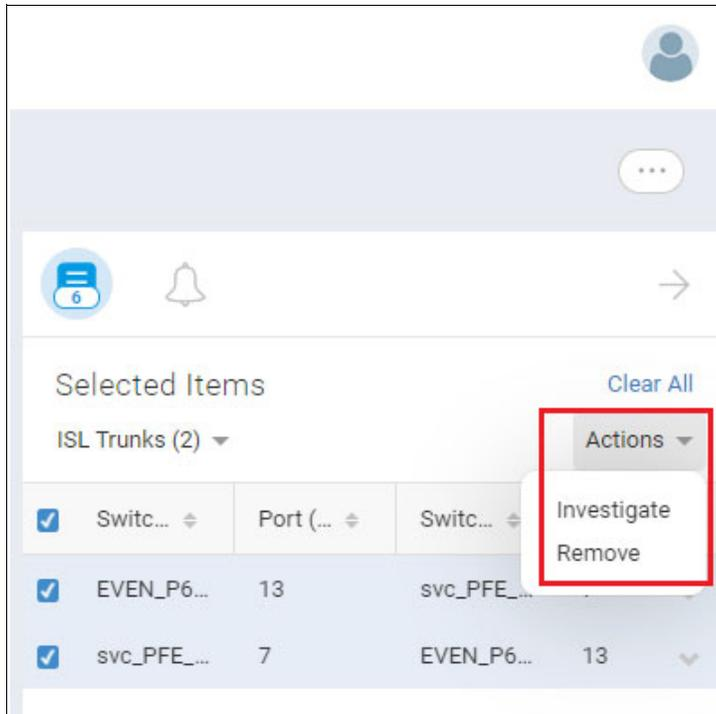

Figure 5-117 Sidebar select action
8. Select the items that you want to investigate and select **Actions** → **Investigate**. If you select multiple ports, they must all be of the same type (Figure 5-117 on page 199).